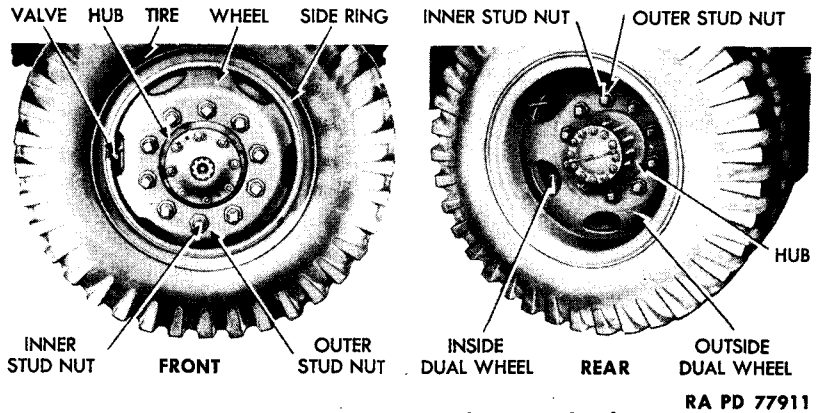

Figure 80 — Front and Rear Wheels
b. Removal (fig. 80). Set propeller shaft brake and block wheels to prevent vehicle from moving. If wheel is mounted singly, loosen the 10 inner and outer stud cap nuts which secure wheel to hub assembly. Using a suitable lifting device, lift wheel clear of floor, and remove the 10 inner and outer stud cap nuts. If two wheels are mounted dually, remove the outer hex head stud cap nuts first, and remove outer wheel; then remove 10 inner stud cap nuts and remove inner wheel.
c. Installation (fig. 80). Position wheel on hub assembly. If wheel is to be mounted alone, install the 10 inner and outer stud cap nuts. If wheels are to be mounted dually, install the 10 inner stud cap nuts, then mount second wheel and install the 10 outer stud cap nuts. Tighten nuts in opposite positions alternately to ensure proper alinement of wheel and hub. Lower wheel to floor, release brake, and remove blocks from wheels.
c. Removal (fig. 80). Remove wheel (par. 133). Lay tire flat on floor with valve pointing up, and remove valve core to release air from tire. Remove side ring from wheel as follows: Insert tire iron in groove at end of ring, and pound iron all the way around between ring and wheel. Remove ring, and force tire iron between tire casing and wheel. Pound iron all the way around. **CAUTION: Be careful not to damage valve. Push valve back through opening, remove tire and tube from wheel, and carefully pull flap and tube from tire.**
d. Installation (fig. 80). Install tube and flap in tire casing, and install valve core. Partially inflate tube, and check to see that tube is not twisted or buckled and that flap entirely covers exposed side of tube. Position tire on wheel, pull valve through opening, and install side ring. Check valve to see that it does not touch wheel. Inflate tire to proper pressure (subpar. a (2), above). Mount wheel on hub assembly (par. 133).